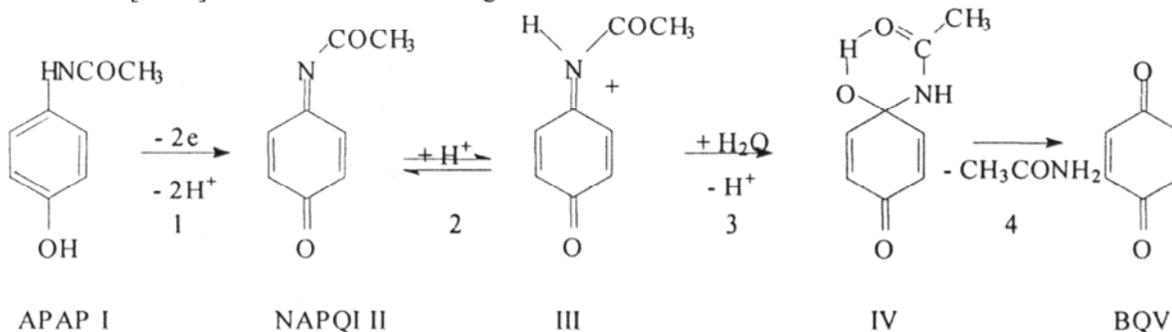

Figure 1. Proposed *ec* mechanism for the oxidation of APAP
APAP, like many other organic substances, undergoes an electrochemical “*ec*” mechanism. That is, the electron transfer step “*e*” produces a species that undergoes a follow-up chemical reaction “*c*” to produce either an electrochemically active or inactive product. Cyclic voltammetry is an ideal electrochemical method to probe this mechanism since the fate of the species produced in the forward scan can be ascertained during the reverse scan. The scan rate determines the time window for observation. The proposed oxidative mechanism [ref. 4] of APAP is shown in Figure 1.
8. Are your results consistent with the proposed mechanism in Figure 1?